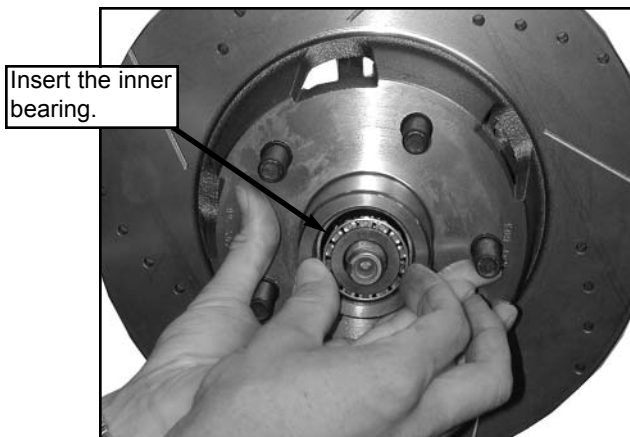

Figure 3
2. Slide the rotor onto the spindle (with the greased inner bearing and the rotor seal already installed) followed by the greased outer bearing (As shown in Figure 3), the keyed washer and the spindle nut (As shown in Figure 4). Tighten the spindle nut until rotor moves freely but is not loose. Then install the spindle nut retainer and the cotter pin to secure.